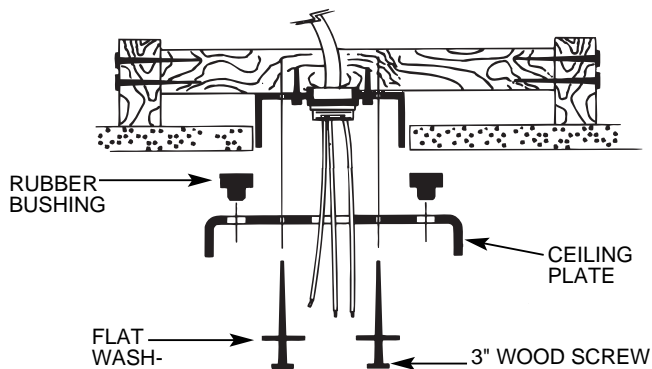

FIGURE 4A. Installing Ceiling Plate
B. Insert the lead wires through the opening in the ceiling plate and install the ceiling plate to the 2 x 4 brace which supports the outlet box. Use (2) #10 wood screws 3" long and (2) flat washers for mounting. Drill (2) pilot holes for the mounting screws 9/64" diameter. See Figure 4A.